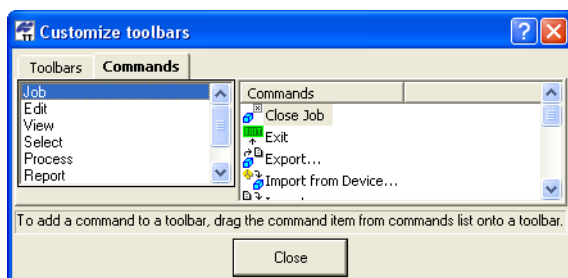

Figure 1-27. Toolbar Commands
3. Select the *Commands* tab. The left panel displays a list of menus and the right panel displays commands available for the selected menu (Figure 1-27).